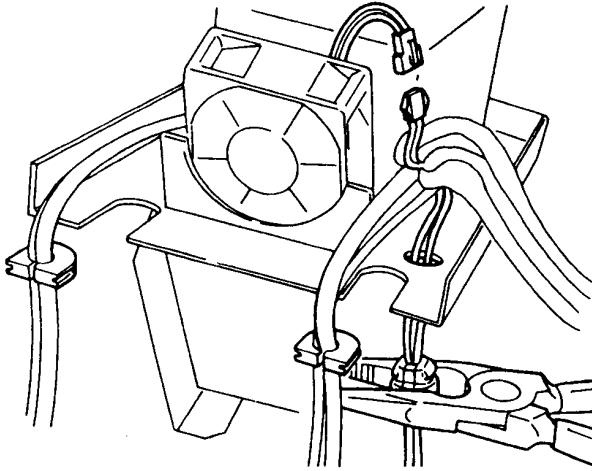

Fig. 11
- 3) Pull out rubber bushings with cords in the U channel of the plate. Disconnect 2P coupler connecting with fan motor. (See Fig. 11)